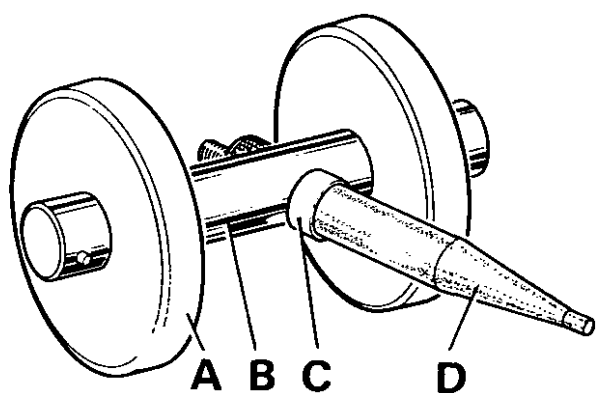

Figure 16.
1. Assemble setting gauge (Service Tool DB8208) by fitting thickest (6.3125 in.) spacer on tool probe and screwing probe as far as possible into tool mandrel. (Fig. 16). Mount tool on end-plate, fitting dummy bearings in end-plate bores and bolting bearing caps in position to hold tool in place.
Place the two spacers with the existing shims and an additional 0.008 in. (0.20 mm) shim between on pinion shaft, so that pinion will have a measurable amount of end-float, then replace bearing, washer and nut. Move selectors to engage LS first gear, lock gearbox by placing a brass drift between teeth of drive gear and auxiliary layshaft gear then tighten pinion nut to 200 lb ft (27.7 kg metres). (Fig. 16).